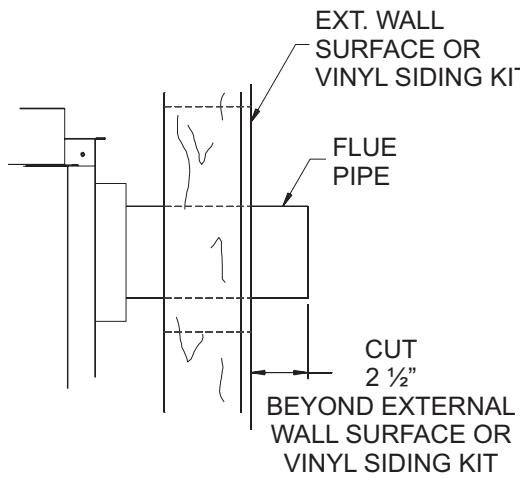
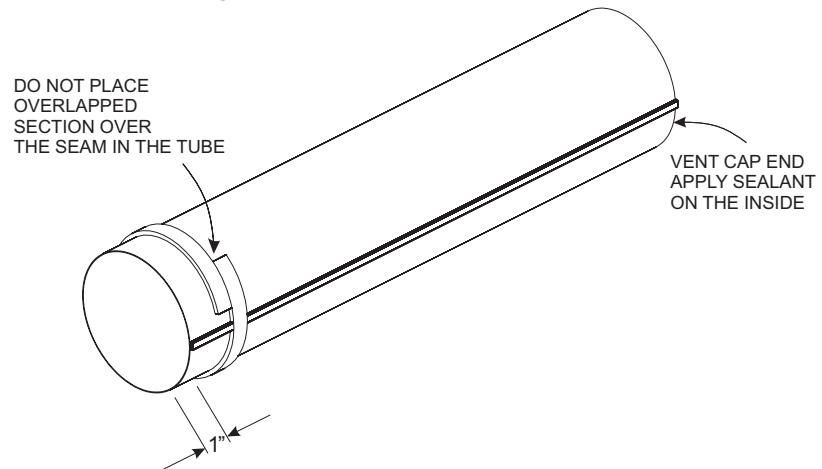

Figure 57
Figure 58
- Attach the 4" (102mm) diameter flue outlet tube onto the rigid venting system or directly to fireplace. Ensure the 4" (102mm) diameter flue outlet tube is placed as far as possible onto the rigid venting system. Mark the 4" (102mm) diameter flue outlet tube 2 1/2" (64mm) beyond the vinyl siding kit or wall. See **Figure 57**. Remove the 4" (102mm) diameter flue outlet tube from rigid venting system. When installing directly to fireplace, tape gasket needs to be used.
- From outside: Push the 6 5/8" (168mm) diameter inlet tube/ mounting plate onto end of rigid venting system to correct position. Fasten the outside mounting plate to the vinyl siding kit or wall with (4) 10 x 1 1/2" screws. (Ensure upward slope).
- From inside: Attach the inlet tube to the collar on the back of the fireplace (or the rigid venting system) using (3) self tapping screws.
- Seal the 4" (102mm) diameter flue outlet tube. Follow instructions and diagram (**Figure 58**).
- Fasten vent cap end using (3) 10 x 1/2" screws to mounting plate.
If the air inlet and flue outlet tubes are to be connected directly to the unit (no rigid venting system is being used), then the gasket provided must be used to seal the 4" (102mm) flue outlet tube. Peel the paper off the self-adhesive gasket and then wrap it around the end of the tube (if tube was cut, it is recommended to use cut end) as shown in Figure 58. Pull the gasket tight at all times while wrapping it around tube. The gasket ends should align, to form a complete seal. The overlapped section should NOT come in contact with the seam in the tube. Apply high temperature sealant to the opposite end of the tube (on the inside of the tube). The end with the gasket will attach to the back of the unit. Continue with Step 13.